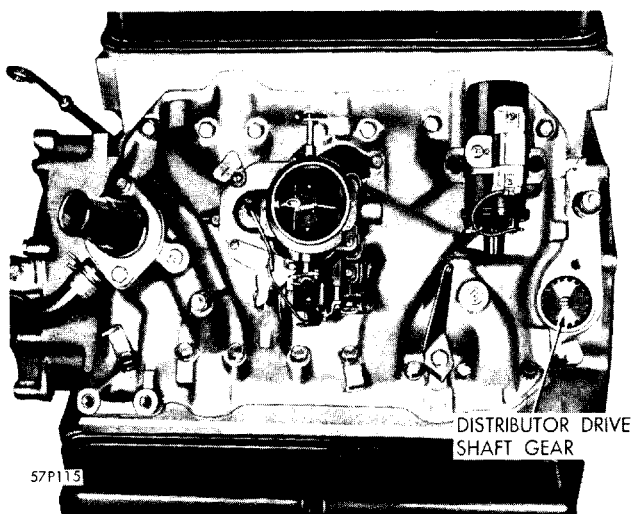

Fig. 10—Position of Distributor Drive Shaft
(11) Install water pump and housing assembly using new gaskets. Tighten bolts to 30 foot-pounds torque.
(12) Install radiator, fan and belt, hoses and close drains.
(13) Fill cooling system.
(14) With timing indicator on T.D.C., install distributor drive gear with slot pointing to the first intake manifold bolt on the left side of engine (Fig. 10).